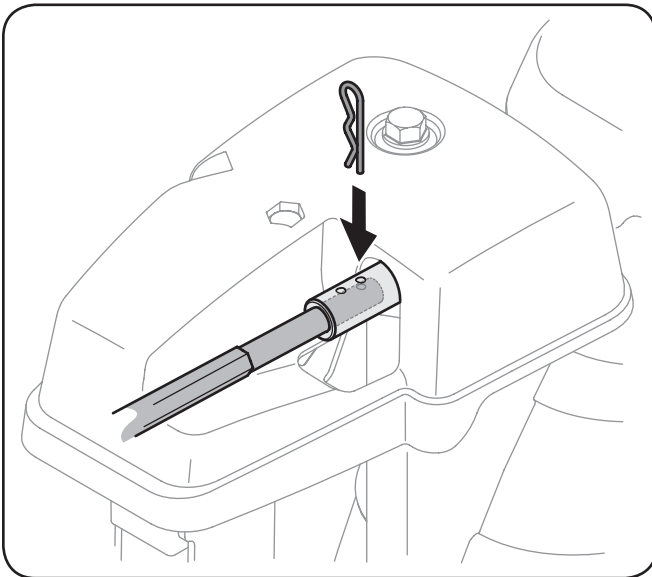

Figure 3-9
- Push the hex rod toward the control panel until the hole in the hex rod lines up with the hole in the chute control input closest to the chute control head and insert the cotter pin. See Fig. 3-9.